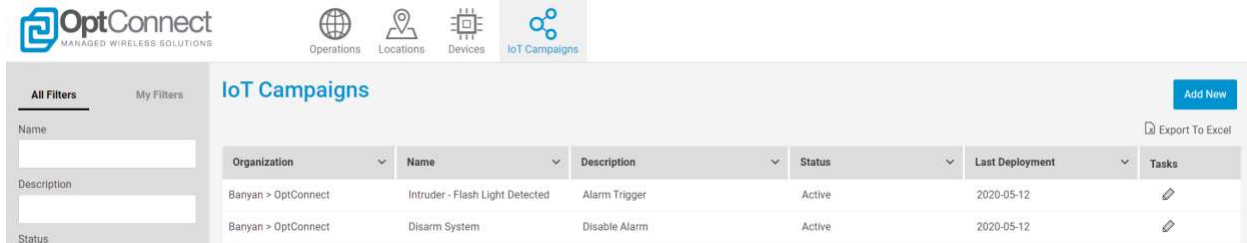

Figure 50
- The two campaigns that were just created should be listed as shown in *Figure 50*. They should show *Active* in the “Status” column.